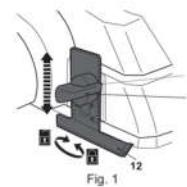

Fig. 1
- Align the slot of the rebate depth gauge (12) to the mounting thread (11) and fix it with a wing screw (6) (Fig. 1).
- Adjust the rebate depth gauge (12) to the desired depth use the scale as a guide.
- Tighten the wing screw (6).